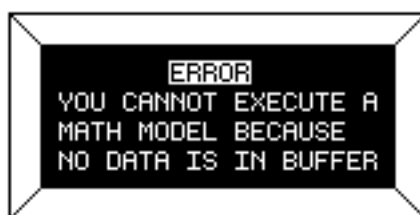

Figure 57
Math models for data analysis are accessed by pressing the PROG key and then 3; 3 = Models (Figure 20). If no data (i.e. no data at all or less than two(2) data points) is in the data buffer, no modeling can be performed and Figure 57 will be displayed: